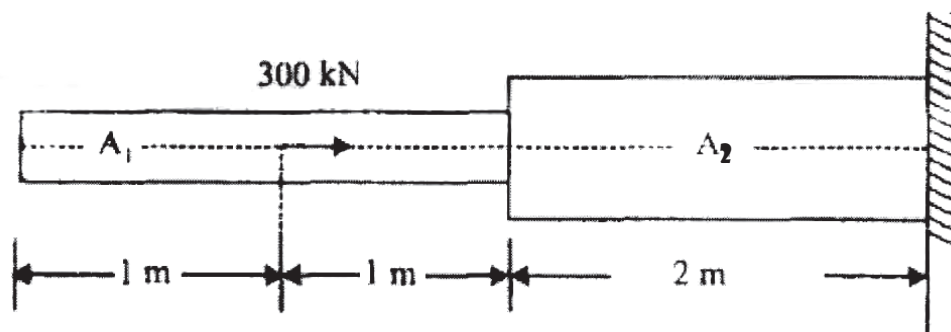

Fig. 3b
- b) Consider the bar as shown in fig 3b. Use  $P = 300\text{kN}$ ,  $A_1 = 0.5\text{m}^2$ ,  $A_2 = 1\text{m}^2$ ,  $E = 200\text{GPa}$ . Determine [10]